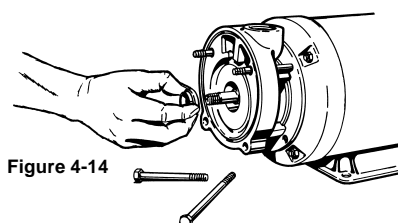

Figure 4-14
- over the two (2) studs (#18) on the motor face.
- c. Install the four (4) "O" rings (#8) on the two studs. This will help hold the bracket in place during the remainder of the assembly operation.
- c. It is generally easier to remove the entire head or sealing assembly from the spring and install it on the motor shaft. Refer to Figure 4-14. This assembly lifts out of the rotating element spring.
- e. Holding the head assembly between the thumb and index finger, with the sealing face pointing toward the stationary seat, slide the assembly over the motor shaft until it rests against the seat. Refer to Figure 4-14. A slight twisting motion will allow the assembly to slide more easily.
- h. Align the keyway slot in the hub assembly, and the key in the motor shaft. Refer to Figure 4-14,